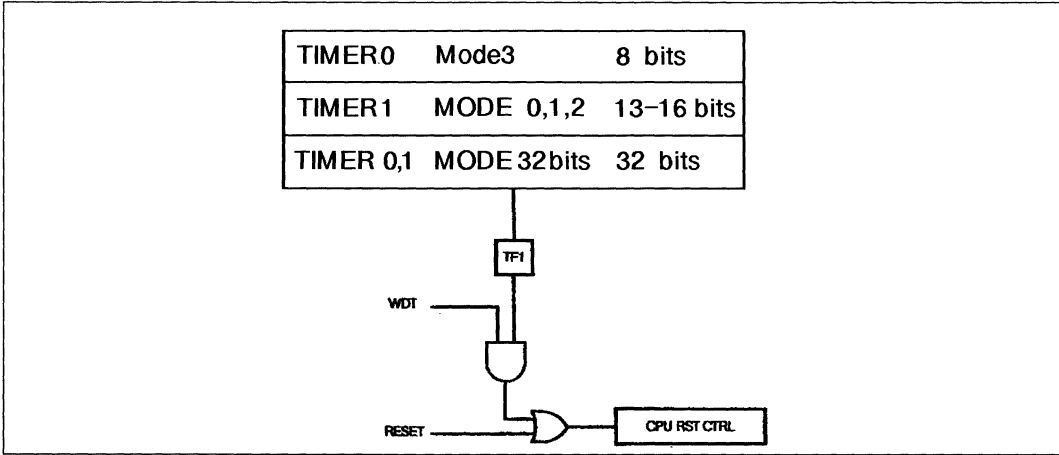

Figure 20 : The Different WATCH-DOG Configurations.
- WDT = 1 enables access to this mode. As shown in figure 20, all the modes of TIMERSs 0 and 1, of which the overflows act on TF1 (TF1 = 1), activate the WATCH-DOG Mode.